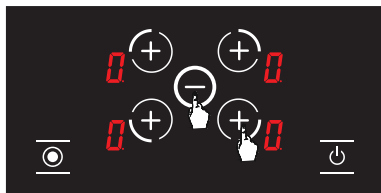

Figure 19
1. Press front right hob selection key () and minus key () simultaneously (see Fig. 19), you shall hear a short warning signal at this time. Then, remove your fingers from the stove control panel.